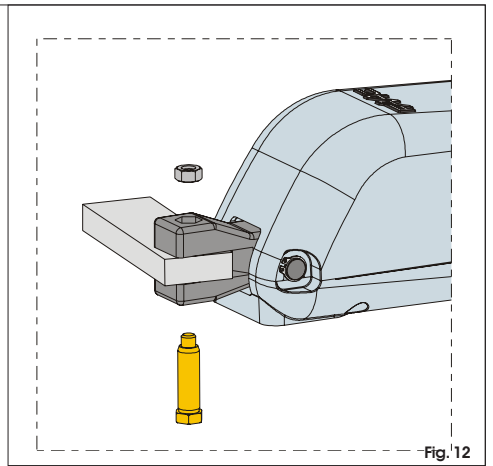

Fig.12
5) Fix the operator to the rear bracket by means of the supplied pins as shown in Fig.12.